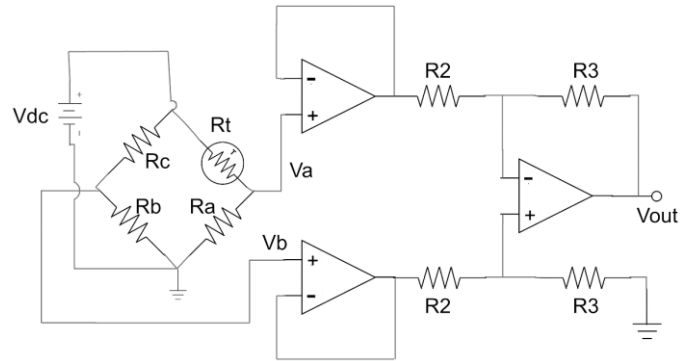

Fig. 4C
- 4C.** An RTD with its signal conditioning circuit to give corresponding output voltage (V_{out}) is shown in the Fig. 4C. The design is such that V_{out} is zero for a temperature of 25°C and RTD gives a resistance (R_t) of 1kΩ at rated temperature of 25°C. Find the temperature when the output (V_{out}) is changed to 3V. Assume $V_{dc} = 5V$, Temperature coefficient of RTD is 0.00393Ω/°C, $R_a = R_b = R_c = R_2 = 1\text{ k}\Omega$ and $R_3 = 10\text{ k}\Omega$. (04)
- iii) Output current (03)
- 5B. With a neat diagram, explain the various elements of a Distributed control system (DCS). Also list out the advantages of using DCS for process control. (03)
- 5C. With the help of neat block diagram explain in detail, the working of various stages in an ECG measuring system resulting in an accurate representation of the health of a patient's heart (04)